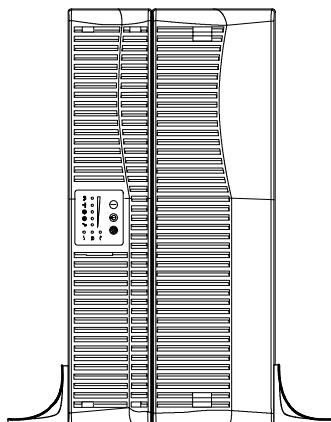

Figure 6. UPS Cabinet with Pedestals
4. Carefully position the unit upright (see Figure 6).